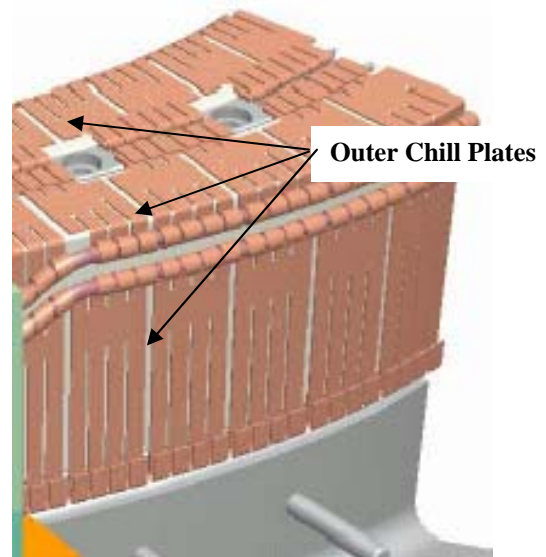

Figure 34- Outer Chill Plates
6.30.2 Continue installing the balance of the chill plates and cooling tubes per section 6.29.2 and 6.29.3. [Figure 34- Outer Chill Plates]